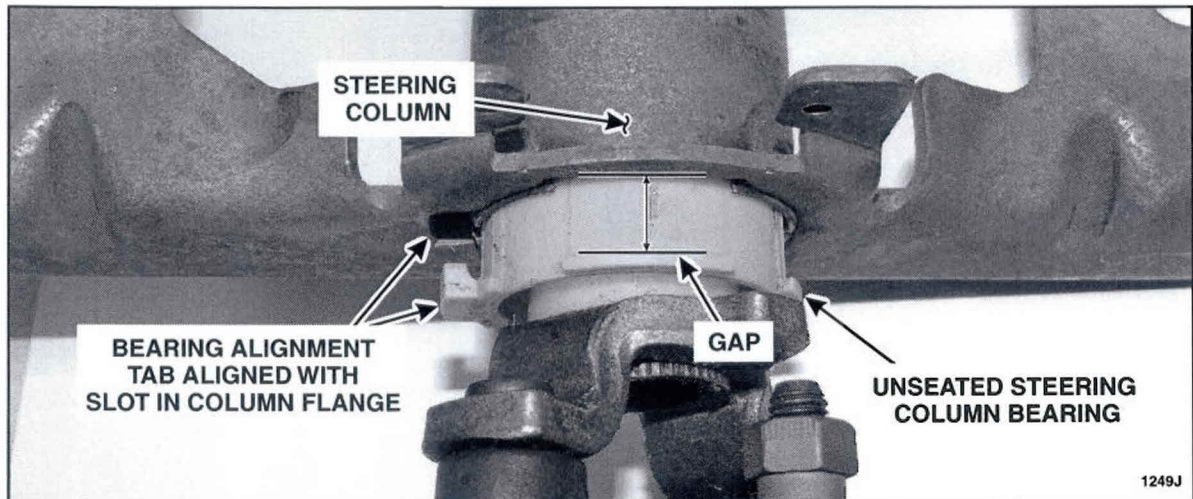

FIGURE 5
2. Align the bearing alignment tab with the slot in the column flange. See Figure 5.